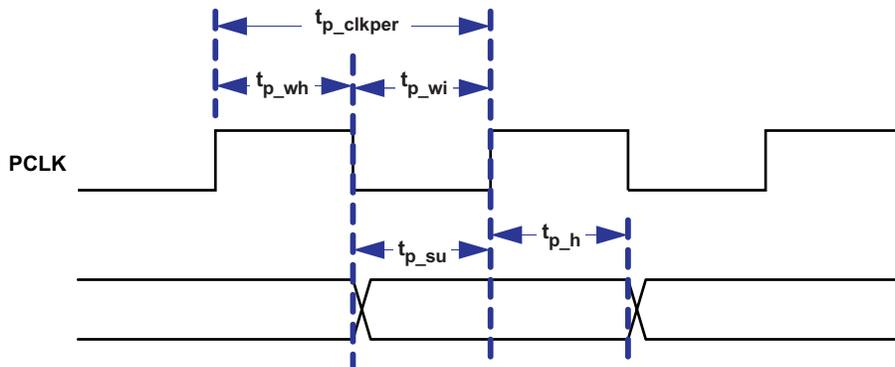

Figure 13. Parallel and BT.656 I/F General Timing
- (1) The BT.656 I/F accepts 8-bit per color, 4:2:2 YCb/Cr data encoded per the industry standard via PDATA(7:0) on the active edge of PCLK (i.e., programmable) as shown in Figure 13.
- (2) Clock jitter (in ns) should be calculated using this formula: Jitter = [ 1 /  $f_{\text{clock}}$  – 28.35 ns ]. Setup and hold times must be met during clock jitter.